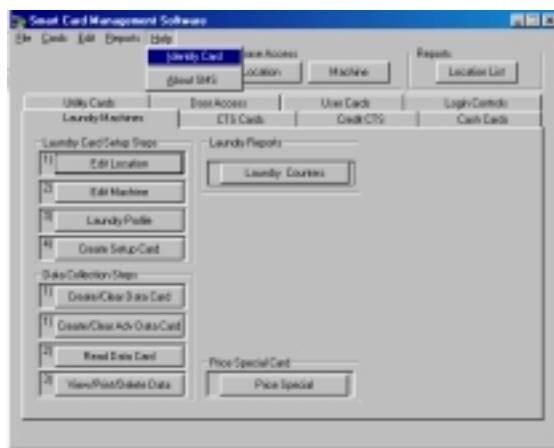

Figure 2.26 Identifying a Card
2. Select Identify Card from the Help drop-down menu on the main screen (Figure 2.26).